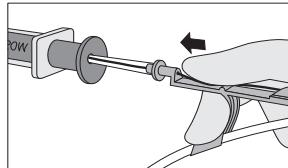

Figure 2
- Raise thumb and pull Arrow Advancer approximately 4 - 8 cm away from Arrow Raulerson Syringe or introducer needle. Lower thumb onto Arrow Advancer and while maintaining a firm grip on guidewire, push assembly into syringe barrel to further advance guidewire (refer to Figure 2). Continue until guidewire reaches desired depth.